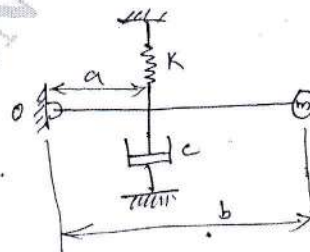

Fig. Q10 (b)
- b. Determine the damped natural frequency for the system shown in Fig. Q10 (b). Also if $m = 1.5\text{ kg}$, $K = 4900\text{ N/m}$, $a = 10\text{ cm}$ and $b = 13\text{ cm}$, determine the critical damping co-efficient 'C' for the system. (10 Marks)